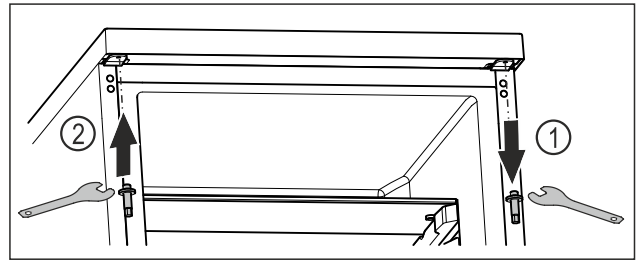

Fig. 15
- ▶ Unscrew the upper bolt with an Allen key. Fig. 15 (1)
- ▶ Tighten the bolt on the opposite side with an Allen key. Fig. 15 (2)